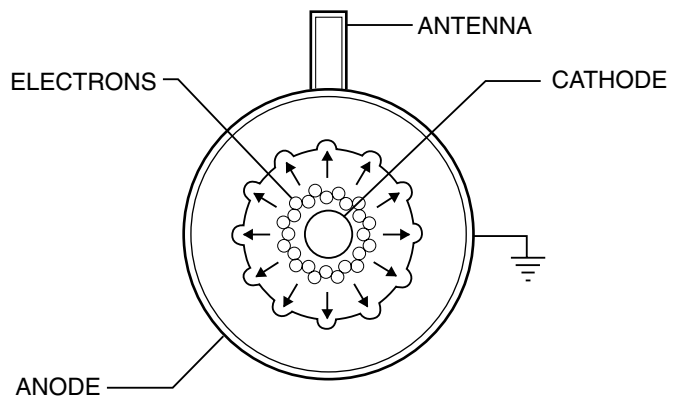
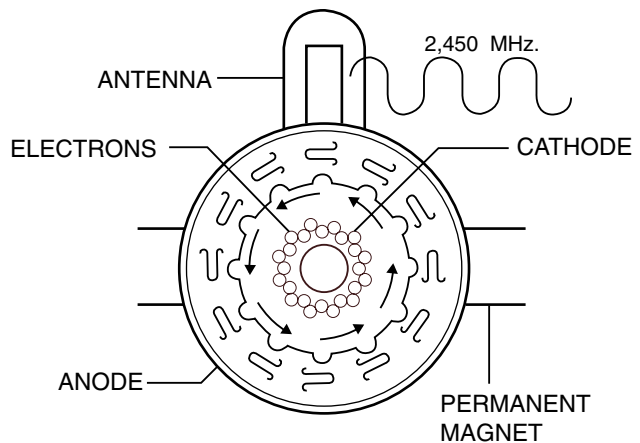

Fig. 9
Fig. 10
- Originally, the electrons would travel in a straight line from the cathode to the anode (see Fig. 9). However, with the addition of a permanent magnet surrounding the anode creating a magnetic field, the electrons travel an orbital path between the cathode and anode (see Fig. 10). As the electrons approach the anode, their orbital path takes them past small resonant cavities that are part of the anode. The passing notion of the electrons induces electron current to oscillate in the resonant cavities at the very high frequency or 2,450 megahertz. This RF energy is then transferred to the antenna.